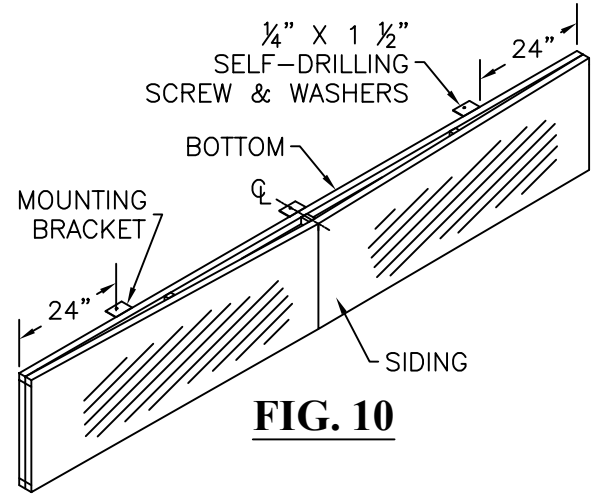

FIG. 10
d. Position Mounting Brackets on Head Frame (Figure 10).
- Use three (3) 3-hole Mounting Brackets.